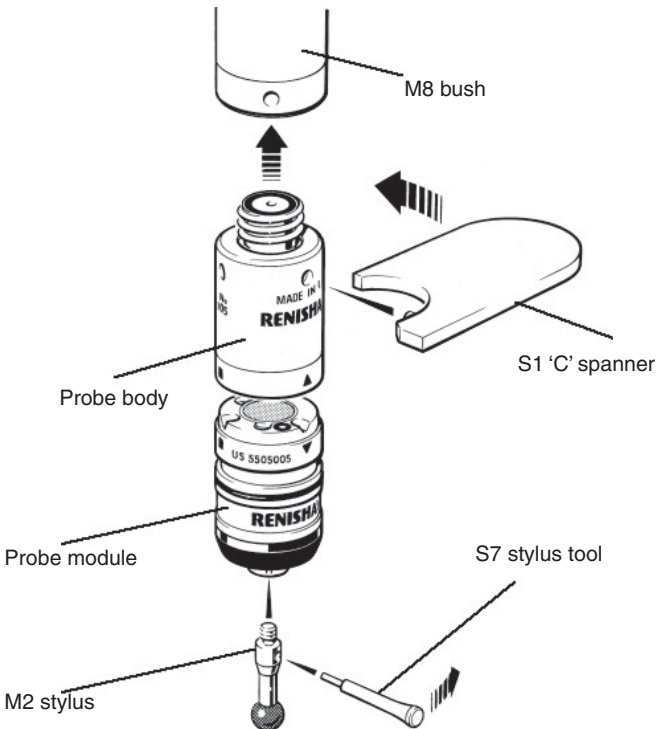

Figure 5 - Fitting the TP20 probe onto a probe head
To fit the TP20 probe onto a probe head, carry out the following procedure (see figure 5):
2. Fit the S1 'C' spanner (supplied) onto the probe body as shown in Figure 5.
To fit a stylus onto the probe module, carry out the following procedure (see figure 5):